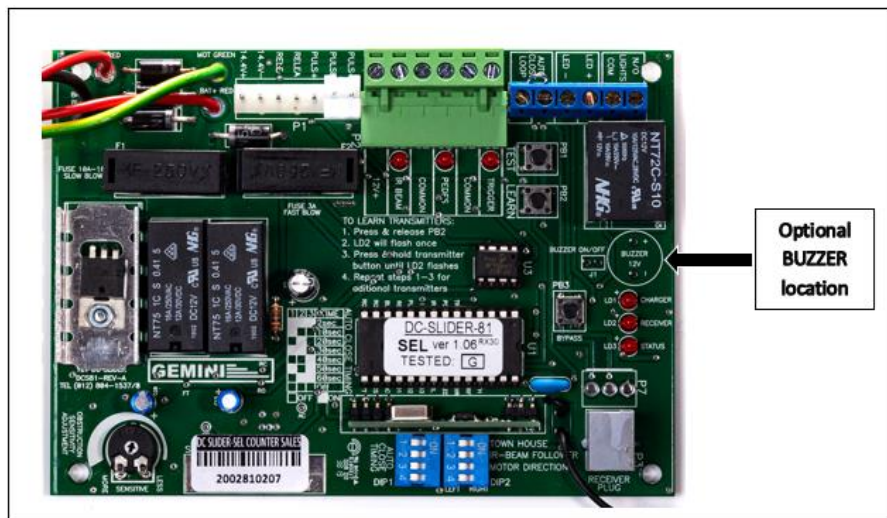

Figure 8
2. The buzzer can be de-activated by removing the buzzer jumper from the electronic control card. See figure 8. This will not affect the operation of the gate.